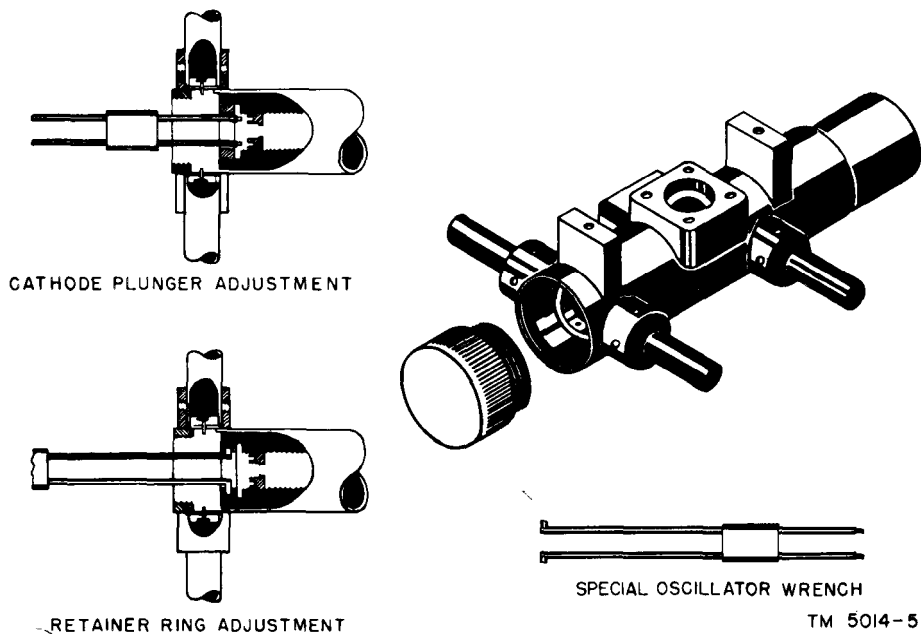
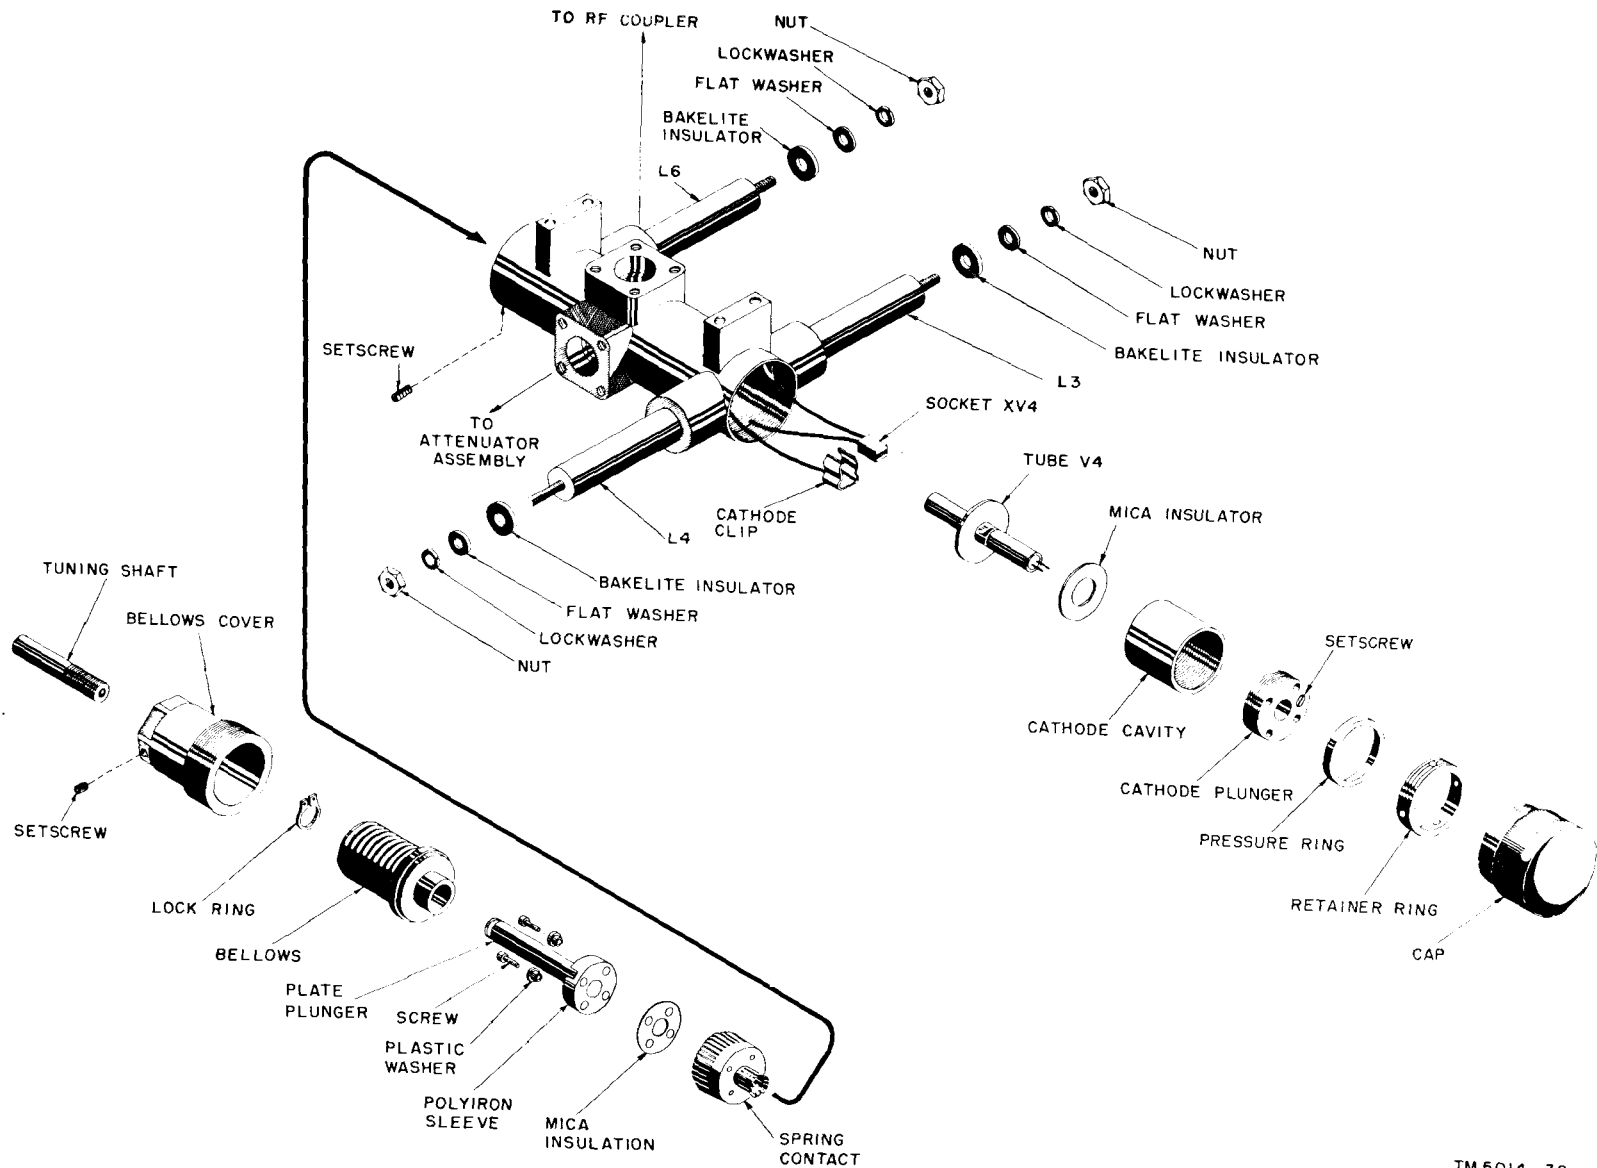

Figure 16. Test Sets TS-538/U, TS-538A/U, and TS-538B/U, use of special oscillator wrench.
Figure 18. Test Sets TS-538/U, TS-538A/U, and TS-538B/U, exploded view of rf oscillator assembly.
- (2) Use a pair of tweezers or long-nosed pliers and carefully pull out socket XV4 and the cathode clip (fig. 18). Be careful not to damage the leads. Insert the pliers through the square hole in the rear of the chassis (fig. 15).
- (3) Remove the retainer ring with the special oscillator wrench. The hooked end of the wrench (fig. 16) is compressed and inserted in the oscillator cavity so that the holes
- (4) Remove the bakelite pressure ring. The cathode cavity and the oscillator tube will now slide out of the assembly. **Carefully** pull the oscillator tube from the cathode cavity. Do not lose the mica insulator.
**b. Replacement.** When replacing the rf oscillator tube, use figure 18 as a guide and proceed as follows:
- (1) Replace tube V4.
- (2) Replace the mica insulator and the cathode cavity.
- (3) Screw the cathode plunger in place.
- (4) Replace the pressure ring.
- (5) Use the special oscillator wrench (fig. 16) and replace the retainer ring.
- (6) Use the long-nosed pliers and carefully replace the cathode clip and socket XV4. Be careful not to damage the filament leads.
- (7) Replace the end cap by turning it clockwise.
- (8) Recalibrate the OSCILLATOR
(fig. 18)
- (1) Remove the rf oscillator assembly from the chassis, as instructed in paragraphs 22, 23, and 24.
- (2) Remove the cap.
- (3) With a pair of tweezers or long-nosed pliers, *carefully* pull out socket XV4 and the cathode clip.
- (4) With the special oscillator wrench (fig. 16), remove the retainer ring.
- (5) Remove the bakelite pressure ring. Remove the cathode cavity that contains the oscillator tube. Carefully pull the tube out of the cavity. Remove the cathode plunger and the mica insulator.
- (6) With a No. 4 Allen-head wrench, loosen and remove the setscrew on the oscillator cavity that holds the